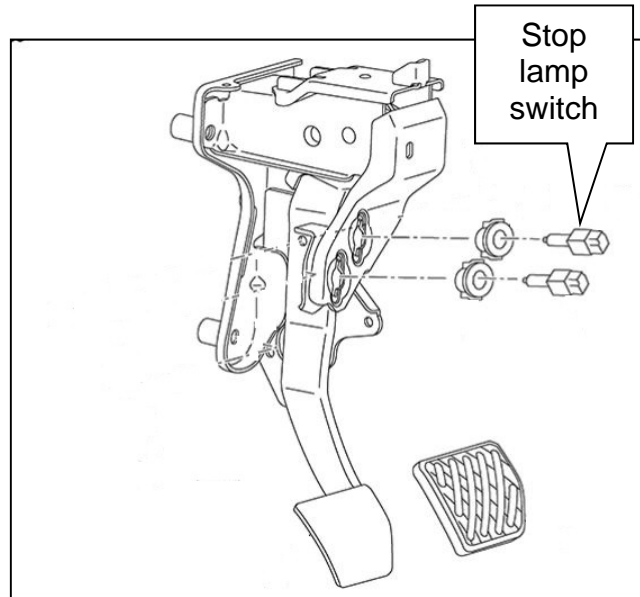

Figure 1
**HINT:** The stop lamp switch is black in color and is the upper of the two (2) switches as shown in Figure 1.